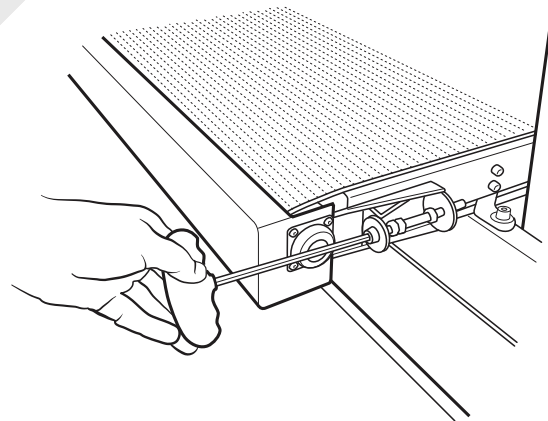

FIG. 5
1. Locate the feed belt tensioning bolts as shown in Fig. 5.